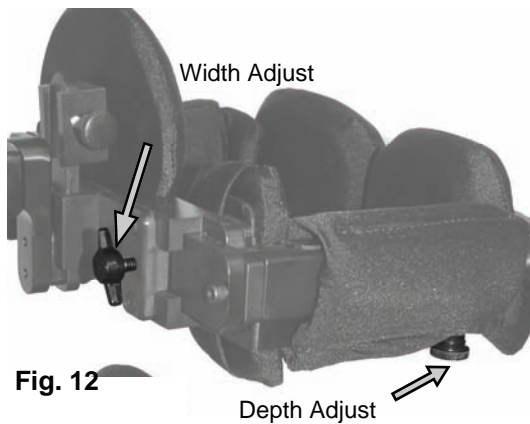

Fig. 12
- Loosen the knobs on the back side of the Upper Body Pads (fig. 12). Slide the pads outward enough to allow the client to fit between them (these pads will be re-adjusted after the client has been placed into the *KidWalk*).